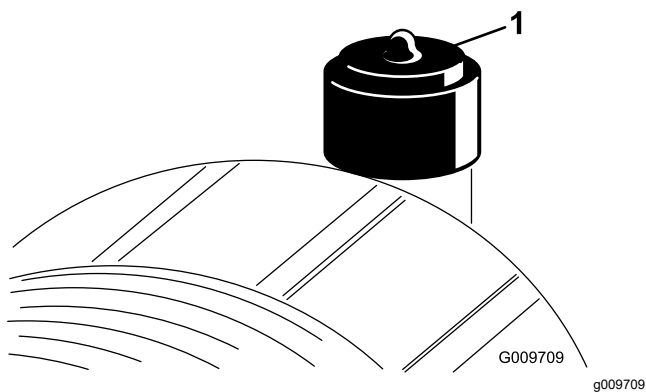

Figure 88
Service the air-cleaner filter only when the service indicator (Figure 88) requires it. Changing the air filter before it is necessary only increases the chance of dirt entering the engine when you remove the filter.
2. Reset the indicator (Figure 88) if it shows red.